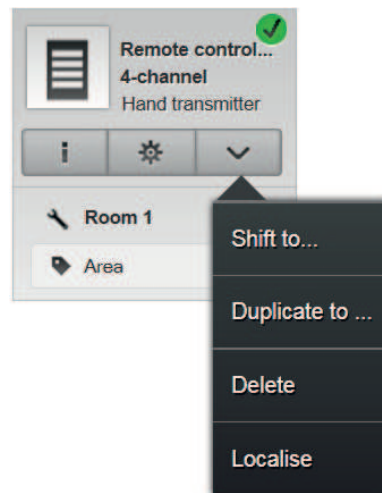

Figure 43: Function selection, e.g. deletion of the device from the project
- Select the  button in the device tile (Figure 43).